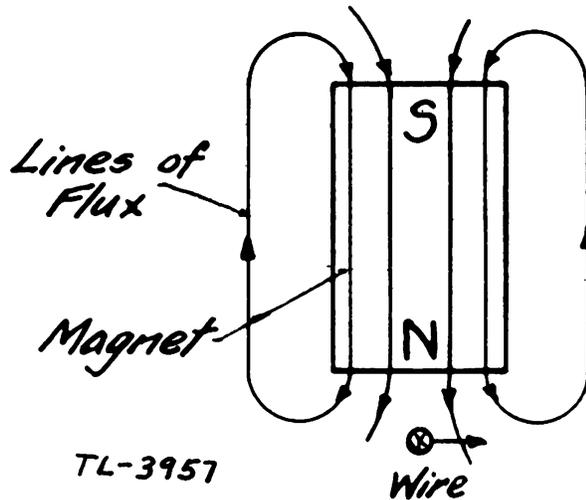

FIGURE 8.—Generator theory, permanent magnet.
7. Generator theory.—*a.* Figure 8 shows a permanent bar magnet, with lines of flux leaving the north pole and entering the south
e. In an actual generator (fig. 10) the field poles (437) serve as electromagnets. The armature winding (414) acts the same as the wire shown moving by the end of the magnet in figures 8 and 9. This movement is spoken of as "cutting the lines of flux" of the magnet. This motion induces a voltage in the armature winding which is connected to the armature commutator (404). The carbon brushes (402) and (403) mounted in the brush holder assemblies (423 and 424) serve to pick up this voltage from the armature as it rotates; and wires from the brushes (403) make the voltage available at the terminals of the generator.